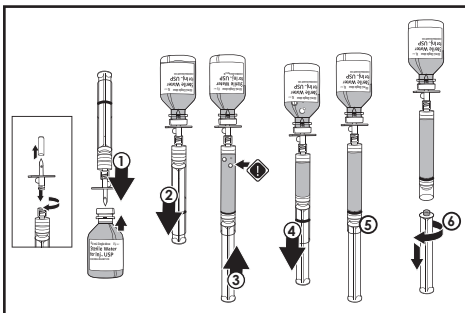

Figure 5. Filling the syringe.
4. Invert Sterile Water Vial and slowly pull back plunger shaft to fill Syringe (Figure 5). Remove plunger shaft once Syringe is filled.